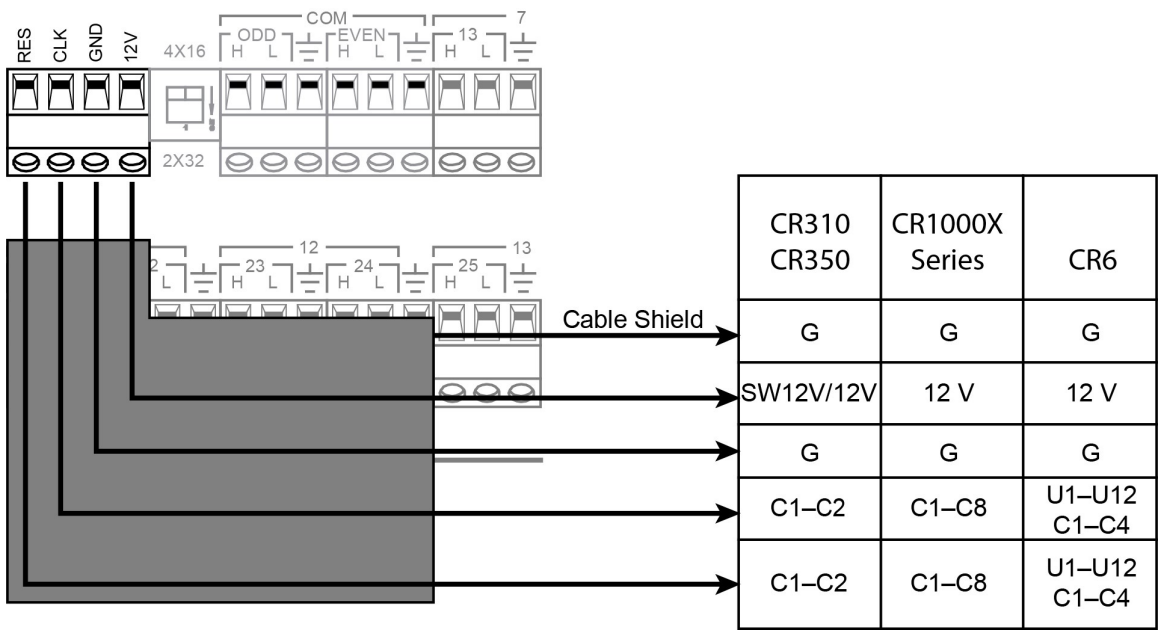

Figure 7-6. Multiplexer to data logger power/control hookup (multiplexer controlled by data logger)
4. Use a CABLE4CBL-L cable to connect the multiplexers to the data logger (see Figure 7-6 [p. 32]).
A CABLE4CBL-L cable is used to connect the multiplexer to the data logger (see Figure 7-6 [p. 32]).